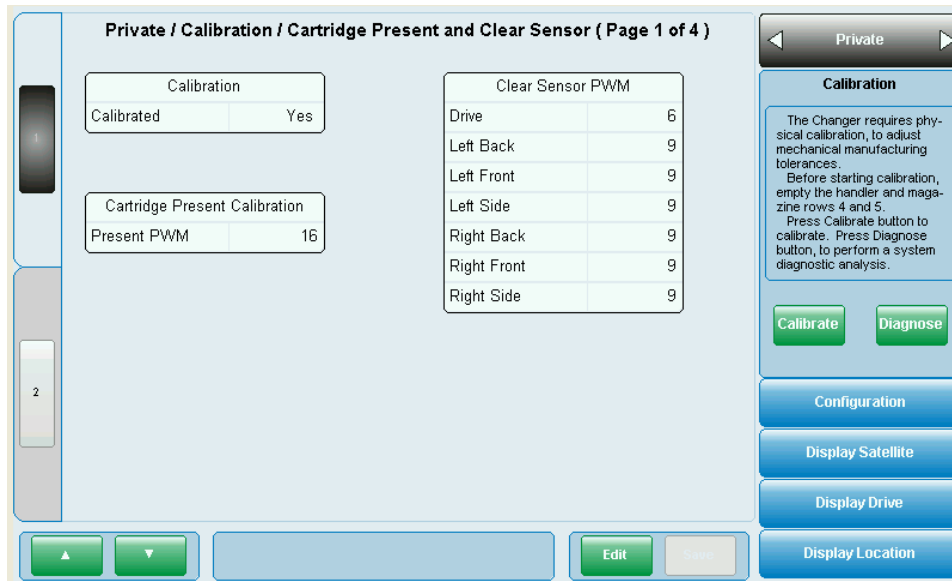

Figure 7-40 The Calibration Screen
5. The Private page should now be visible and the Calibration page is the first sub page as shown in Figure 7-40.